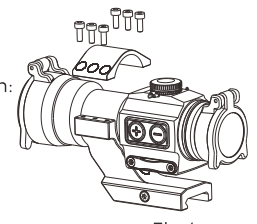

Fig 4
- 2) Mount the sight on the bracket follow the direction and position which are shown in Fig 4.